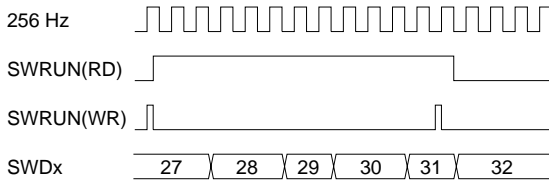

Fig. 5.9.5.1 Timing chart of RUN/STOP control
- (1) The stopwatch timer is actually made to RUN/STOP in synchronization with the falling edge of the 256 Hz signal after writing to the SWRUN register. Consequently, when "0" is written to the SWRUN, the timer shifts to STOP status when the counter is incremented "1". The SWRUN maintains "1" for reading until the timer actually shifts to STOP status. Figure 5.9.5.1 shows the timing chart of the RUN/STOP control.